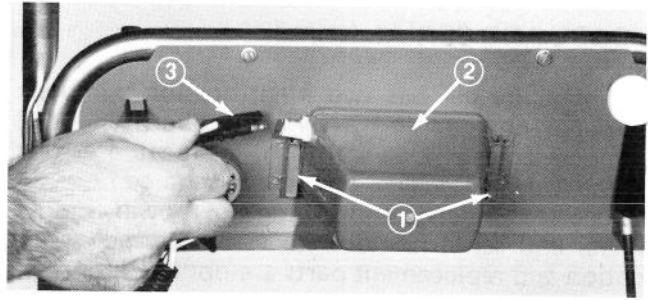

Figure 3
2. Hold battery so connector terminal is to the left. Slide battery between mounting slots on back of control panel (Fig. 3).
3. Push wiring harness connector onto battery terminal (Fig. 3).